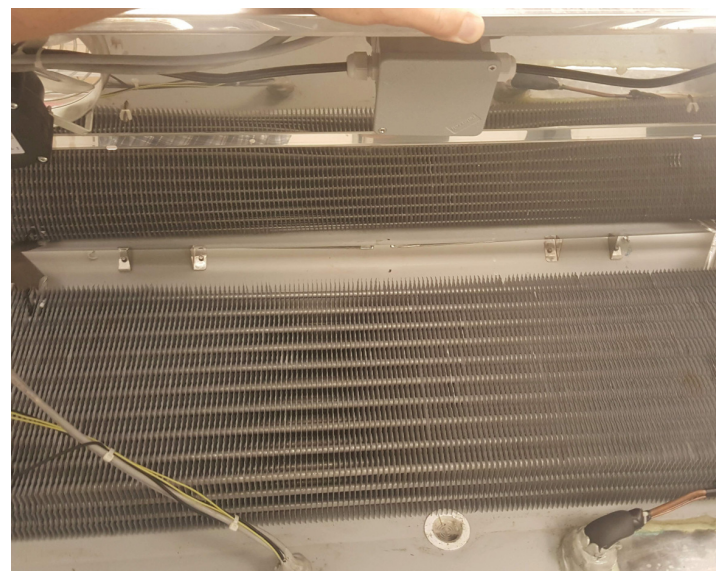

Fig. 14 Fan and Fan Plenum
2. To access the underside of the fans, the coil or the tank (Fig. 14). Lift the fan plenum and clean as necessary. Use a spray bottle filled with an approved mild detergent and warm water.